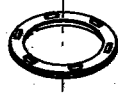

Fig. 1
Position the disc, pos. 45a, in the recess of the chamber (not used in bottom chamber, pos. 5a) before the neck ring is pressed into the chamber. *The PTFE disc on the neck ring must be uppermost, see fig. 1.*